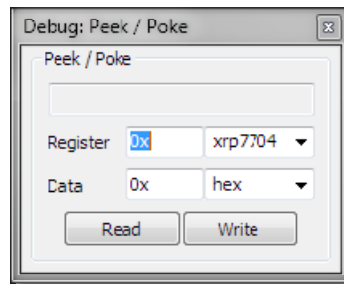

Fig. 14: Programming SLAVE_ADDR Register
- When changing I²C slave address, Peek/Poke functionality can be used to write to the NVM (Fig. 14). Value programmed into NVM only takes effect when a soft reset is issued or power is cycled. Peek/Poke function asks for 8-bit hex value as data to be programmed, whereas the slave address is only 7-bit. Therefore, MSB is not used, the LSB has to be 0 (even addresses only) For example, to program a slave address of 64 (decimal), a hex value of 0x40 has to be written into NVM location 0x0A (Fig. 14). For complete user modifiable 7705 register map, see Appendix – A.